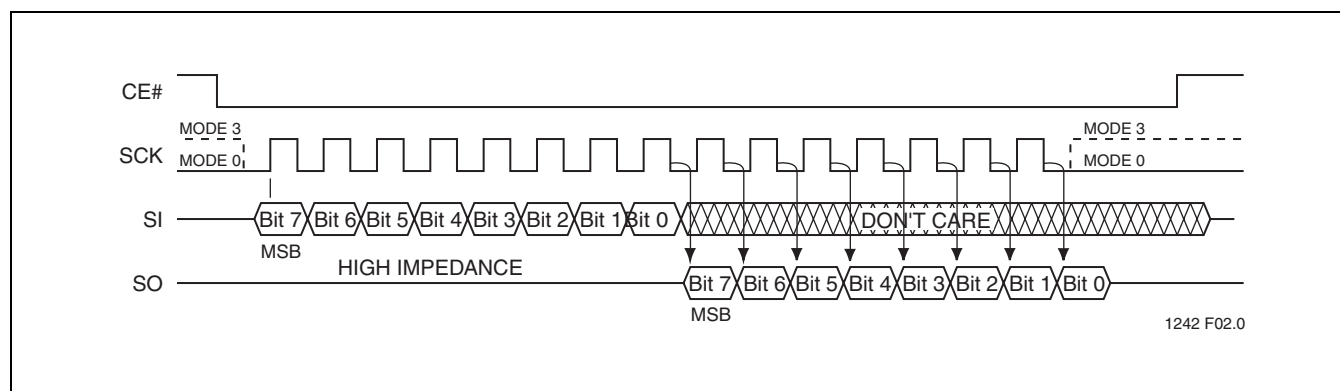

FIGURE 3: SPI Protocol
The SST25LF020A supports both Mode 0 (0,0) and Mode 3 (1,1) of SPI bus operations. The difference between the two modes, as shown in Figure 3, is the state of the SCK signal when the bus master is in Stand-by mode and no data is being transferred. The SCK signal is low for Mode 0 and SCK signal is high for Mode 3. For both modes, the Serial Data In (SI) is sampled at the rising edge of the SCK clock signal and the Serial Data Output (SO) is driven after the falling edge of the SCK clock signal.